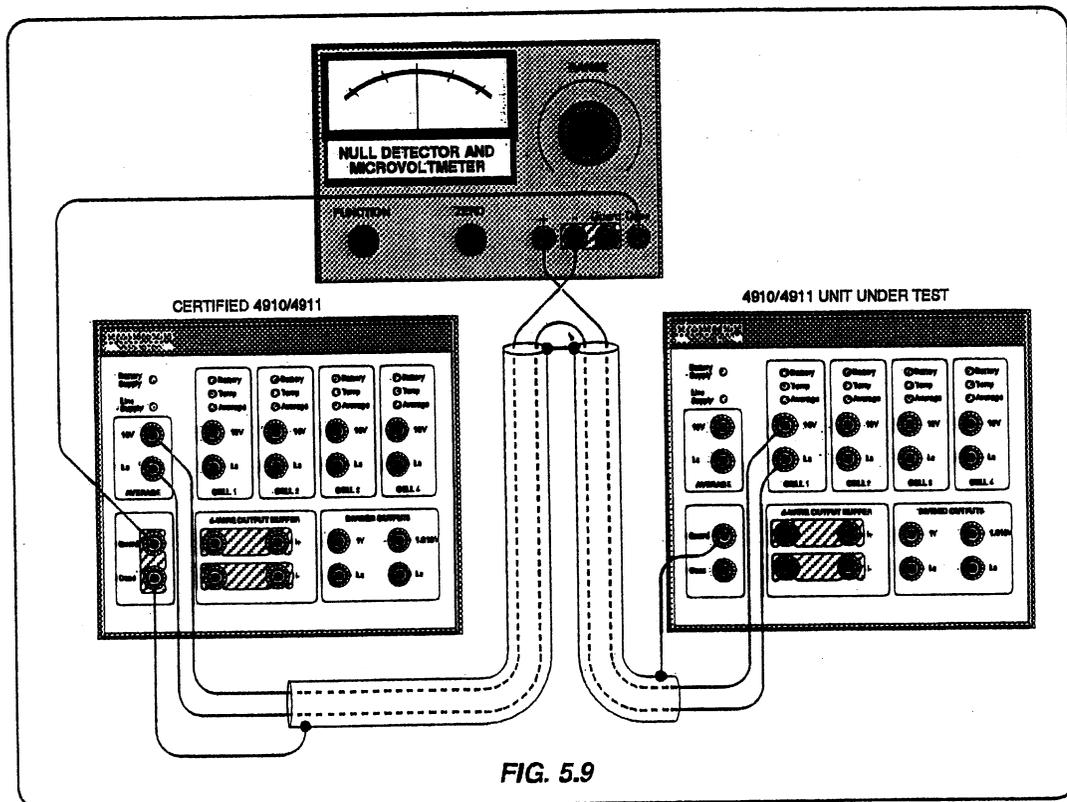

FIG. 5.9
5. Connect the null detector to the certified 4910/4911 and the UUT as illustrated in Fig 5.9.